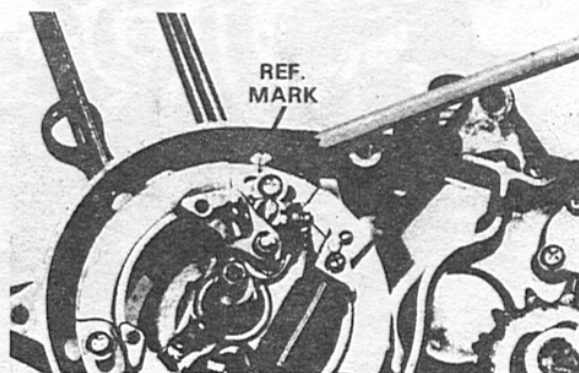

Fig. 6
24. Carefully mark the position of the magneto armature plate relative to the crankcase with a prick punch or with a felt marking pen. These reference marks will make it possible to reinstall the magneto armature plate in exactly the same position to avoid the necessity of major timing adjustments when the engine is reassembled. (Figure 6)
29. Position the magneto armature plate making use of the reference marks which you made prior to removing this assembly. (Figure 6) Secure the plate with the 3 armature plate screws.